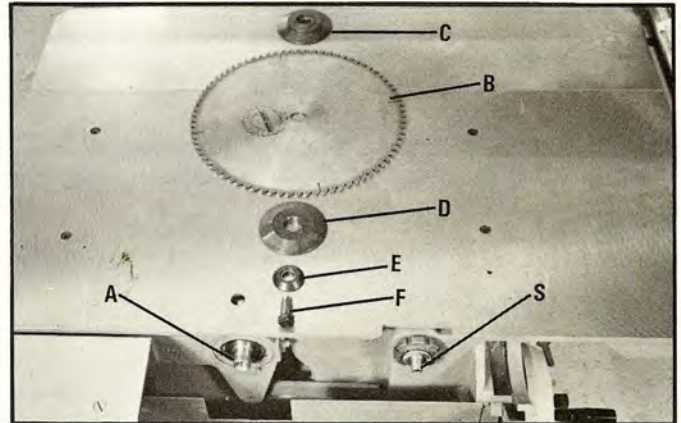

Fig. 23
2. Place inner flange (C) Fig. 23, on arbor (A).
3. Assemble saw blade (B) Fig. 23, onto arbor (A). NOTE: Teeth of the saw blade must point down towards the scoring blade arbor (S) Fig. 23. (Saw blade not supplied with machine.)
4. Assemble outer flange (D) Fig. 23, washer (E) and screw (F).